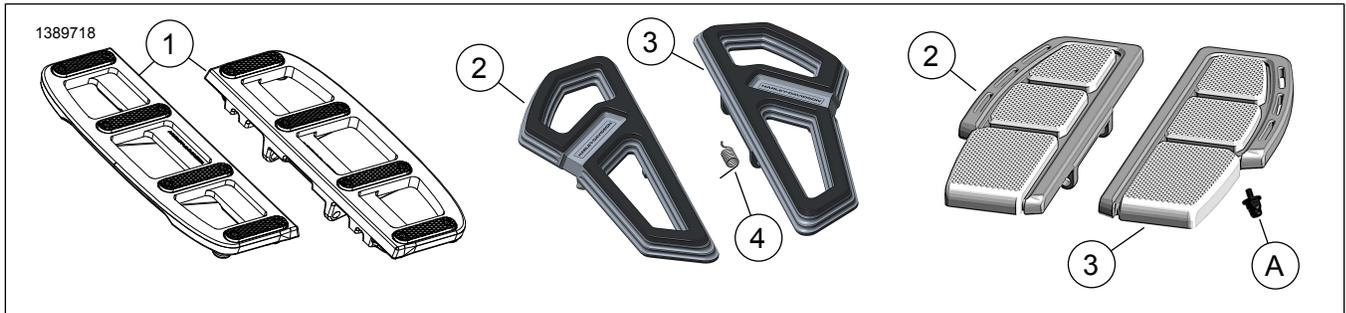

Figure 1. Kit Contents: Rider Footboard Components
- b. **Kits 50501938, 50501939, 50501945:** Figure 1 Insert short end of **new** torsion spring (4) into forward most hole in footboard.
- c. While holding torsion spring (2) in place, install footboard and torsion spring onto mounting bracket.
- d. Install clevis pin (1).
- e. Install E-clip (3).
- f. Rotate footboard up and push torsion spring (2) into slot on mounting bracket.
2. Check that footboard pivots freely on clevis pin (1).